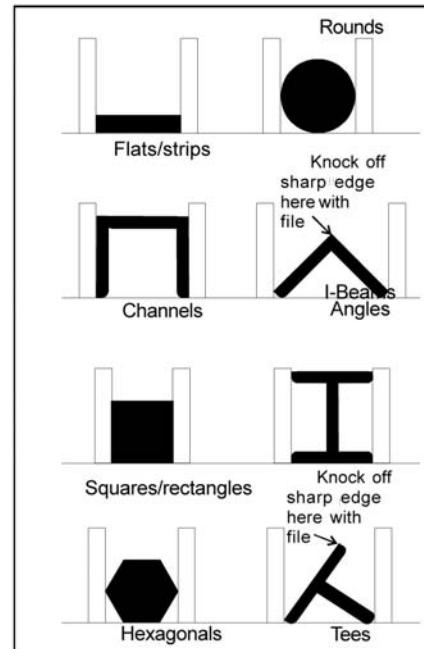

Figure 9: Placing workpieces in vise
- Clamp the workpiece in the vise. (See Figure 9 for examples of workpieces in the vise.)